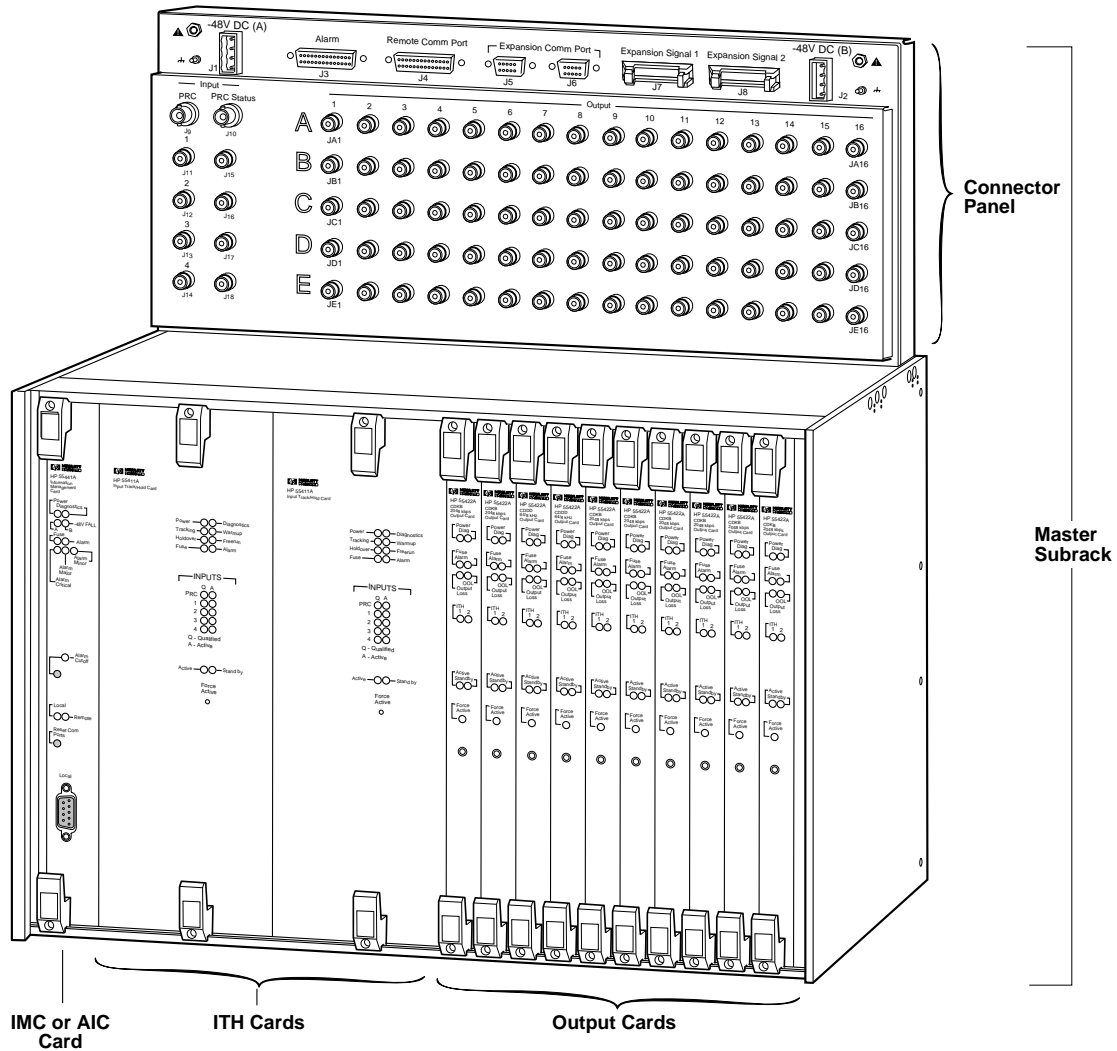

Figure 1. HP 55400A Network Synchronization Unit
2.1. The HP 55400A (shown in Figure 1) is a modular, fully redundant timing distribution system for 2048 kbps or 2048 kHz primary rate networks. It is ideal for situations where SDH (Synchronous Digital Hierarchy) technology is being deployed or expanded. The system provides precise timing synchronization signals to network equipment within a wireline network node or office.
2.2. The HP 55400A (Figure 1) conforms to telecommunication design standards, supporting both the ETSI SSU (Synchronization Supply Unit) and the Bellcore BITS (Building Integrated Timing Supply) concepts. The HP 55400A tracks up to nine incoming reference signals from higher or equal levels of the network, qualifies the signals, then filters and distributes a precise signal to the node's equipment. Incoming reference signals may come from cesium standards at the top level of the network, GPS reference sources, or live traffic signals.